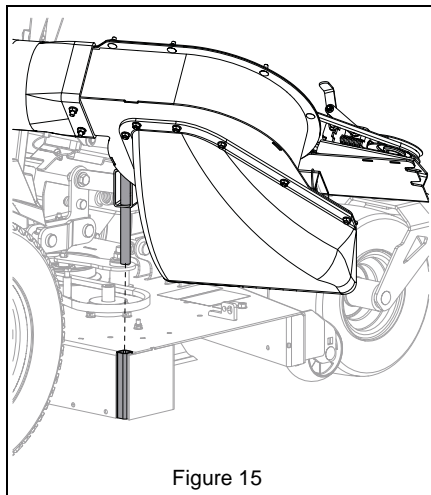

Figure 15
5. Install blower assembly mounting pin through mounting tube. See Figure 15.